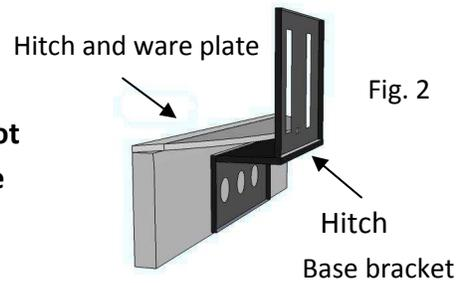

Fig. 2
- 4) Place hitch base bracket against forward side of hitch with bracket oriented as shown. See fig 2.